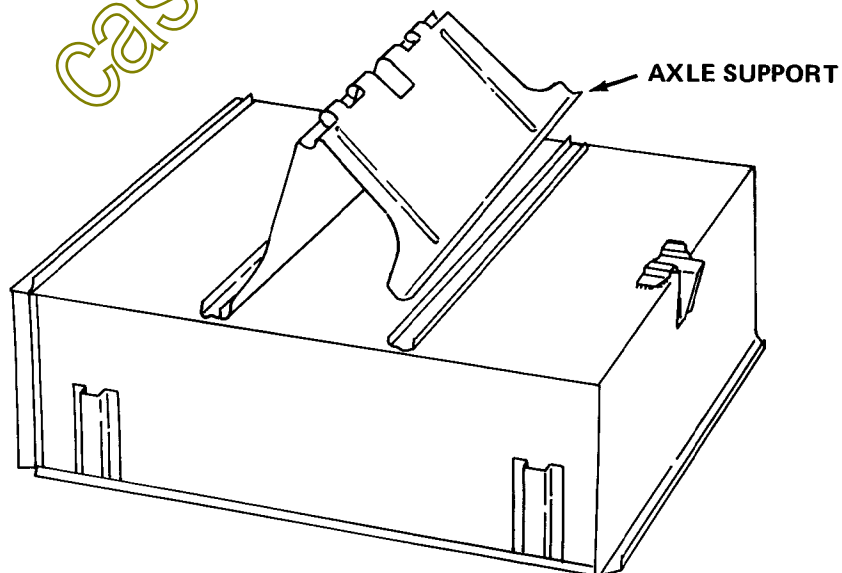

FIGURE 3
2. See Figure 3. The axle support is symmetrical and can be installed with either side facing forward.